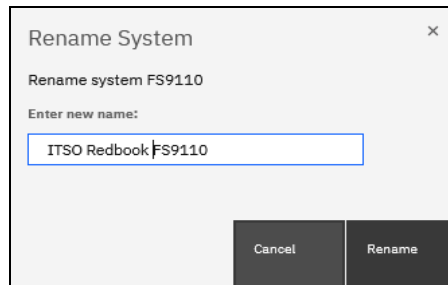

Figure 4-127 Renaming the system
2. The Rename System window opens (see Figure 4-127). Specify a new name for the system and click **Rename**.